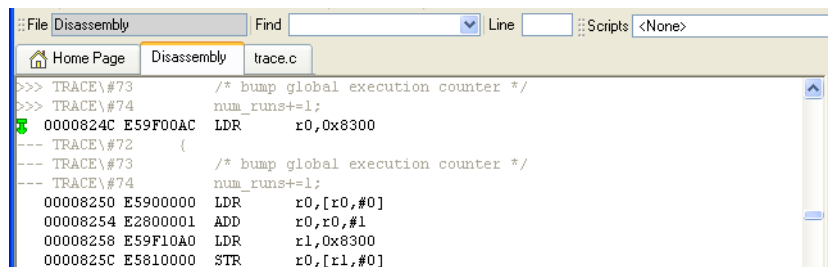

Figure 10-21 Trace Start Point set
- h. Click **OK**. The dialog box closes, and the Trace Start Point is set as indicated by the green arrow. Figure 10-21 shows an example: